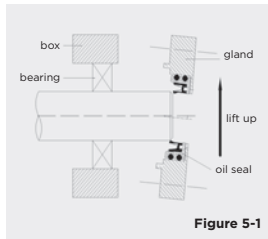

Figure 5-1
3. Push the oil seal to the end of the shaft at an angle (Figure 5-1), and put the bottom of the oil seal on the shaft.